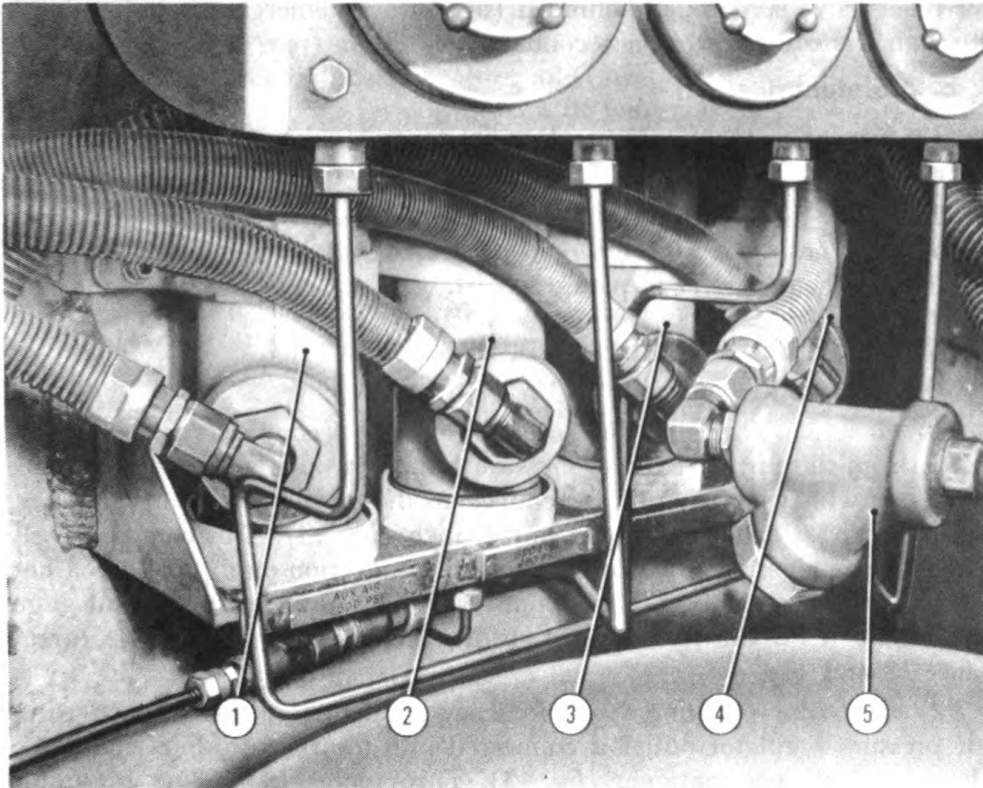

Figure 45—Air relief valves in turret.
air relief valve is mounted behind it (fig. 45). An emergency air line leads through a check valve to the secondary fuel system (par. 45).
(3) *Air relief valve* (fig. 45). An air relief valve set at 650 pounds per square inch is provided in this system on the pressure regulator outlet of the air system for the secondary fuel. This relief valve is located behind the regulator panel board in the turret. A line from the basket secondary fuel container leads through this relief valve out the left rear turret shelf to the outside of the turret.